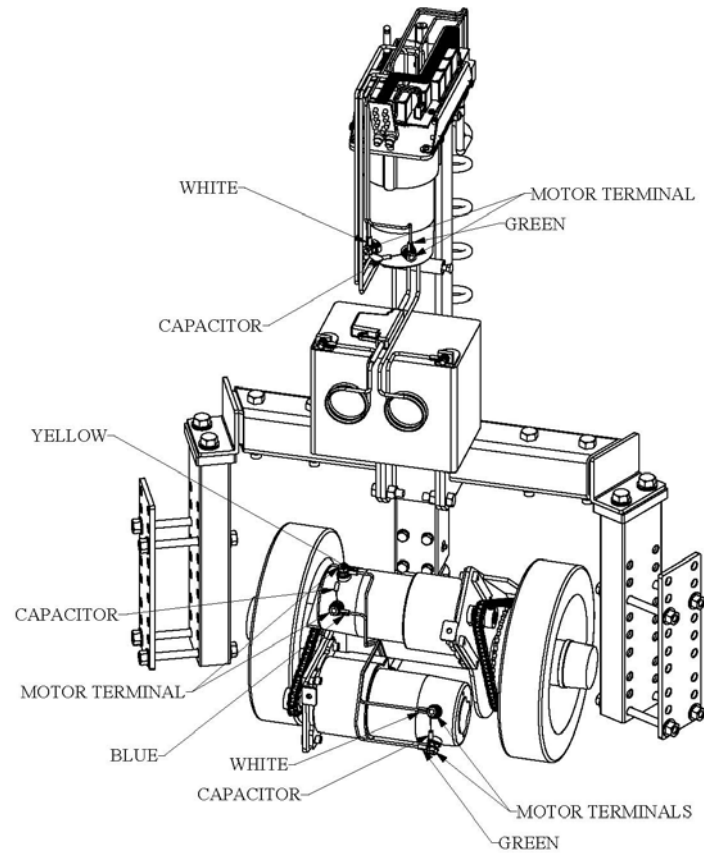

Fig. 1.15
11. Locate the two (2) power terminals on each of the three (3) gearmotors and make a note of the color of each wire that connects to them so that they can be replaced in their proper location. Notice also the filter capacitor attached between the motor terminals. Refer to Fig. 1.15.
9. Place the ring terminals of each color-coded wire onto their proper locations on all three (3) gearmotors. Refer to Fig. 1.15.